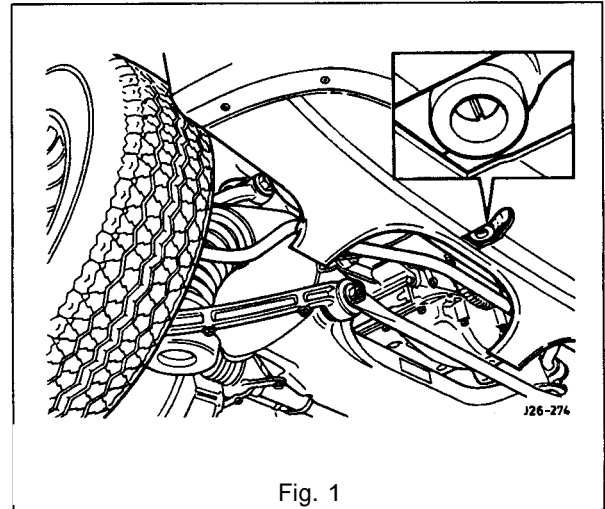

Fig. 1
- Place a drain tray in position under the radiator drain plug (Fig. 1).